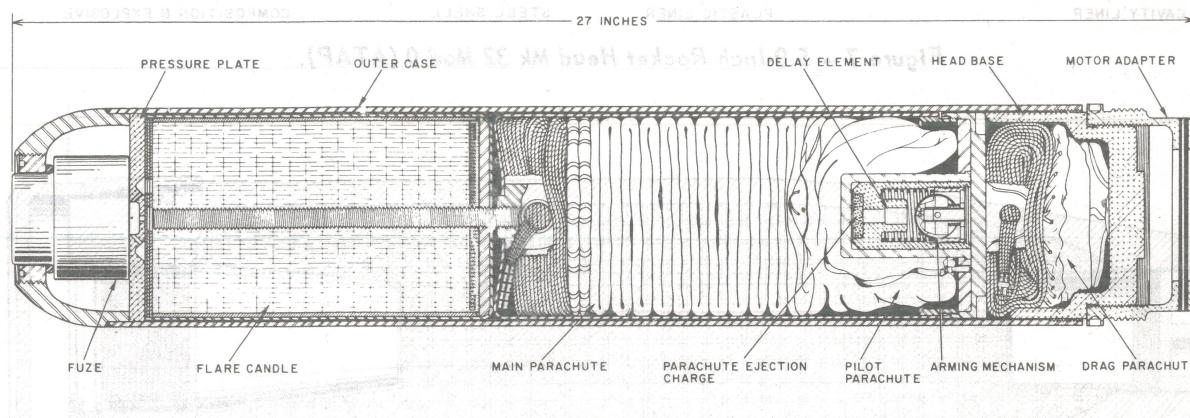

Figure 9 – 5.0-Inch Rocket Head Mk 33 Mod 0 (Illuminating).
5. 0-INCH ROCKET HEAD MK 33 MOD 0 (ILLUMINATING). The Mk 33 head, figure 9, is a 27-inch-long cylindrical case containing a fuze, a flare candle, a main suspension parachute and its pilot chute, a delay-action mechanism, and a drag parachute. A head base, threaded to fit the rocket motor, seals the case.